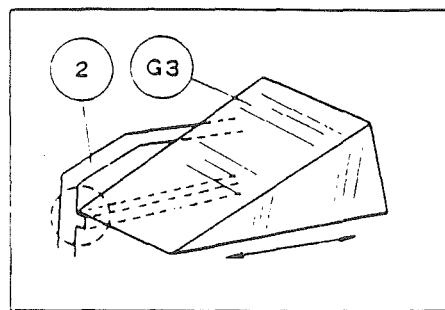

Fig. 31
- 2) If, in this case, such a center displacement cannot be corrected by moving the lens chamber ③, make adjustment of prism ③, as below:
- For lateral adjustment, place a piece of silver foil (0.1mm thick) underneath, as shown in Fig. 31, to cause a movement corresponding to 5 scale lines.
- For vertical adjustment, move prism ③ along the wall of prism mount ②, as shown in Fig. 31.